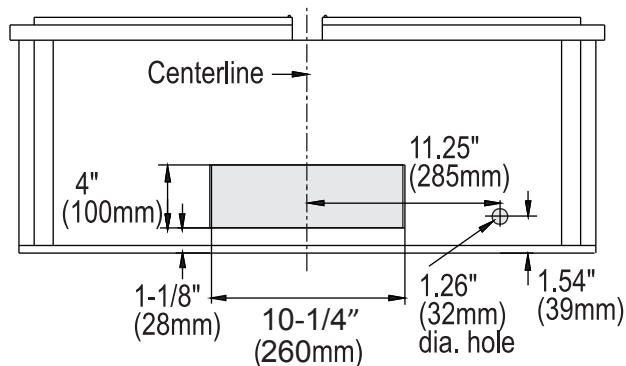
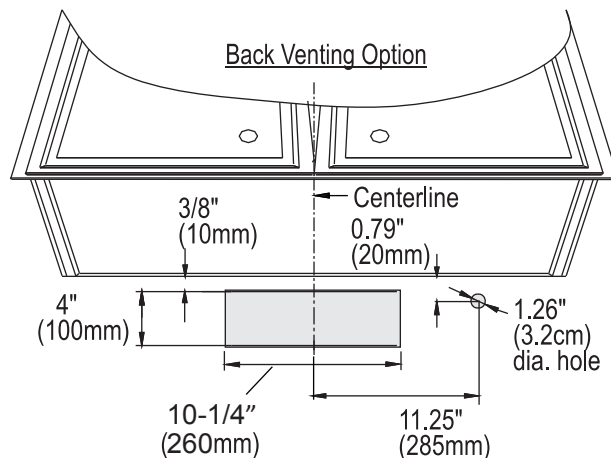

Fig.3
Fig.4
- Determine if your existing venting system is top venting or back venting, and ensure that the openings in the cabinet or wall for the damper and for power access are in appropriate locations and are of appropriate sizes, as per Fig 3. if it is top vent or Fig. 4 if it is back vent.
- If this is a new installation, choose the venting method that suits your needs. Cut out openings for the damper and for power access in the cabinet bottom or exterior wall. Following Fig. 3 if it going to be a top vent of Fig. 4 if it is going to be a back vent.